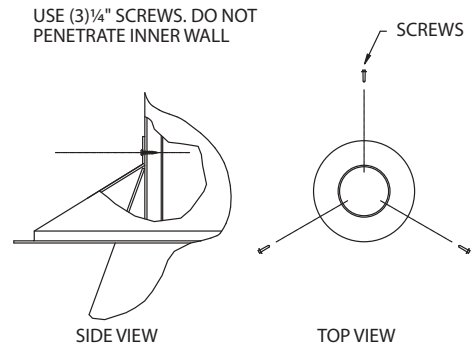

Figure 29
(h). Storm Collar. Slide the Storm Collar over the pipe down to top of the Flashing. Secure the Storm Collar in place with at least (3) 1/4" sheet metal screws (**Figure 29**). Do not penetrate the inner liner. The Storm Collar and Flashing will support the weight of the vent assembly. Use non-hardening sealant around the top of Storm Collar to make a weatherproof seal.
(g). **Storm Collar.** Slide the Storm Collar over the pipe down to top of the Flashing. Secure the Storm Collar in place with at least (3) 1/4" sheet metal screws (**Figure 29**). Do not penetrate the inner liner. The Storm Collar and Flashing will support the weight of the vent assembly. Use non-hardening sealant around the top of Storm Collar to make a weatherproof seal.